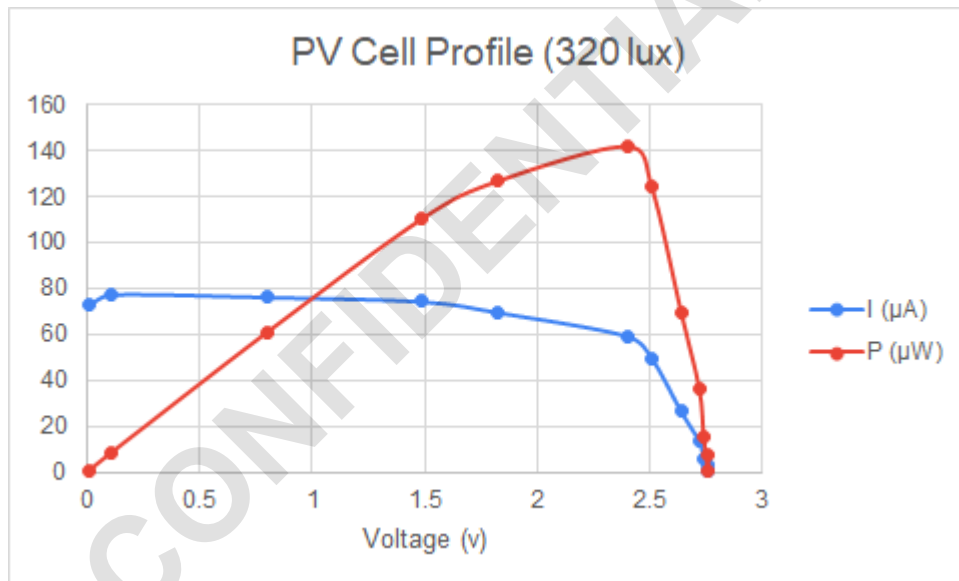

Figure 4 - PV Cell Profile
- Figure 4 - PV Cell Profile
Actual measured data for a 10 cm^2 PV cell operating at 320 lux is shown in Figure 4 below. At an operating voltage of only 1.5 V the cell produces over 100 μW , more than enough to support a typical beaconing application described later in this document.